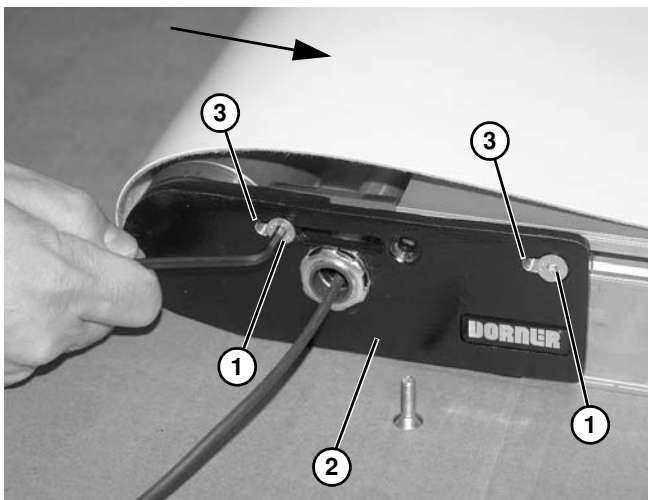

Figure 48
- Loosen outer fastening screws (**Figure 48, item 1**) from iDrive head plate (**Figure 48, item 2**) (on each side of conveyor) to allow head plate assembly to slide in slots (**Figure 48, item 3**). Push head plate inward toward conveyor.